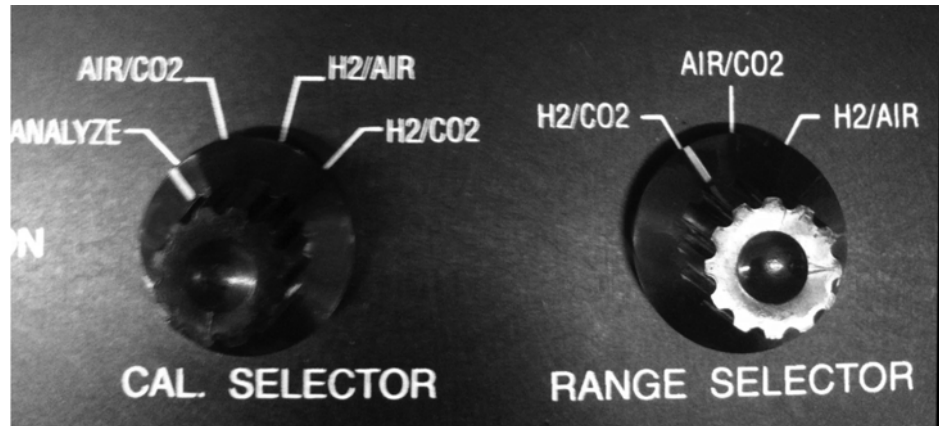

Figure 3-10: Range Switch in H2/CO2 Position
- Make sure the calibration switch is in the ANALYZE position then set the range switch to the H₂/CO₂ position. See Figure 3-10